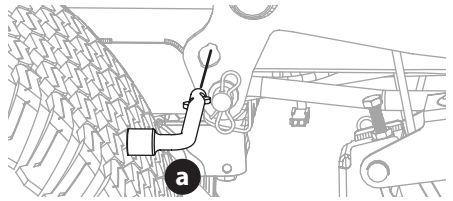

Fig. 43
5. On tractors equipped with the deck lift knob or pin, use the deck lift pedal and deck lift knob or pin to place the deck in the lowest position and use the multi-tool (a) (if equipped) to lock the deck lift components in place as shown in Fig. 43. On tractors with a deck lift handle, lower the deck into the lowest position.